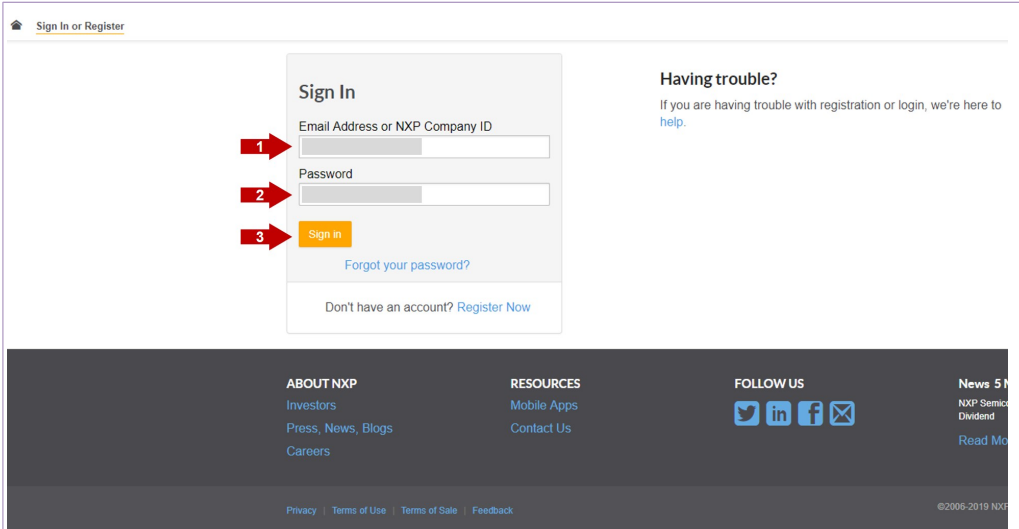

Figure 45. Sign-in in NXP website
- 3. If you already have an account, you can directly type your (1) email address, (2) password and (3) click sign-in button as shown in Figure 45: